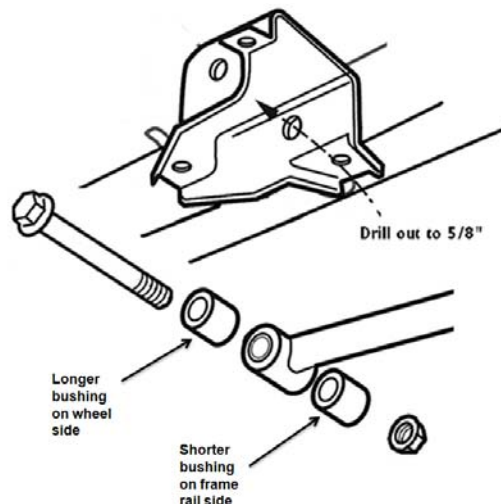

Figure 3. Lower Link Chassis Mount (Driver Side)
- 5) Install the lower links into the factory front leaf spring mount. The holes will need to be drilled out to 5/8" dia. for the front 4-link bolts. Once they are drilled, they can be installed and bolted in place. The lower links use spacers at the inside and outside of the link in the leaf spring mount, with the outside spacer being slightly longer than the inside spacer. See Figure 3.